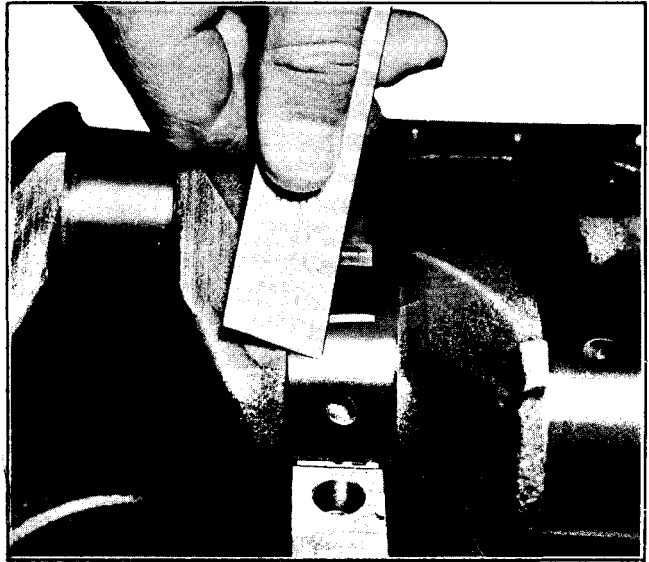

Fig. 6-57 Measuring Plastic Gauge
4. Remove bearing cap and using plastic gage scale on envelope measure width of compressed plastic gage before removing it from the bearing or journal (Fig. 6-57). If the bearing clearance is between .0005" and .0025", the clearance is satisfactory. If the clearance is more than .0025", replace the bearing with the next undersize bearing and recheck clearance. Bearings are available in standard size, .001" and .002" undersize.
3. Remove bearing cap and using plastic gage scale on envelope, measure width of compressed plastic gage before removing it from the crankpin or bearing (Fig. 6-57). If the bearing clearance is between .0005" and .0025", the clearance is satisfactory. If the clearance is more than .0025", replace the bearing with the next undersize bearing and recheck clearance. Bearings are available in standard, .001" and .002" undersize.